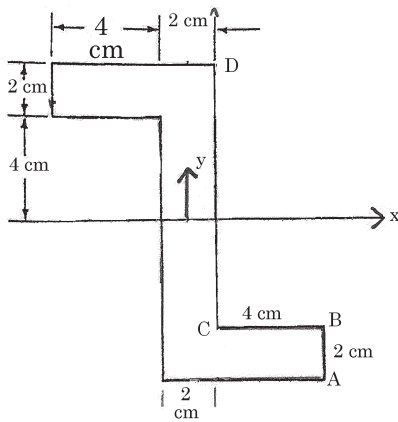

Figure 1
11. a) The section indicated in Figure 1 is subject to bending moments $M_x = 5000 \text{ N cm}$ and $M_y = -4000 \text{ N cm}$. Determine the bending stress at corner points A, B and C and determine the neutral axis inclination angle.